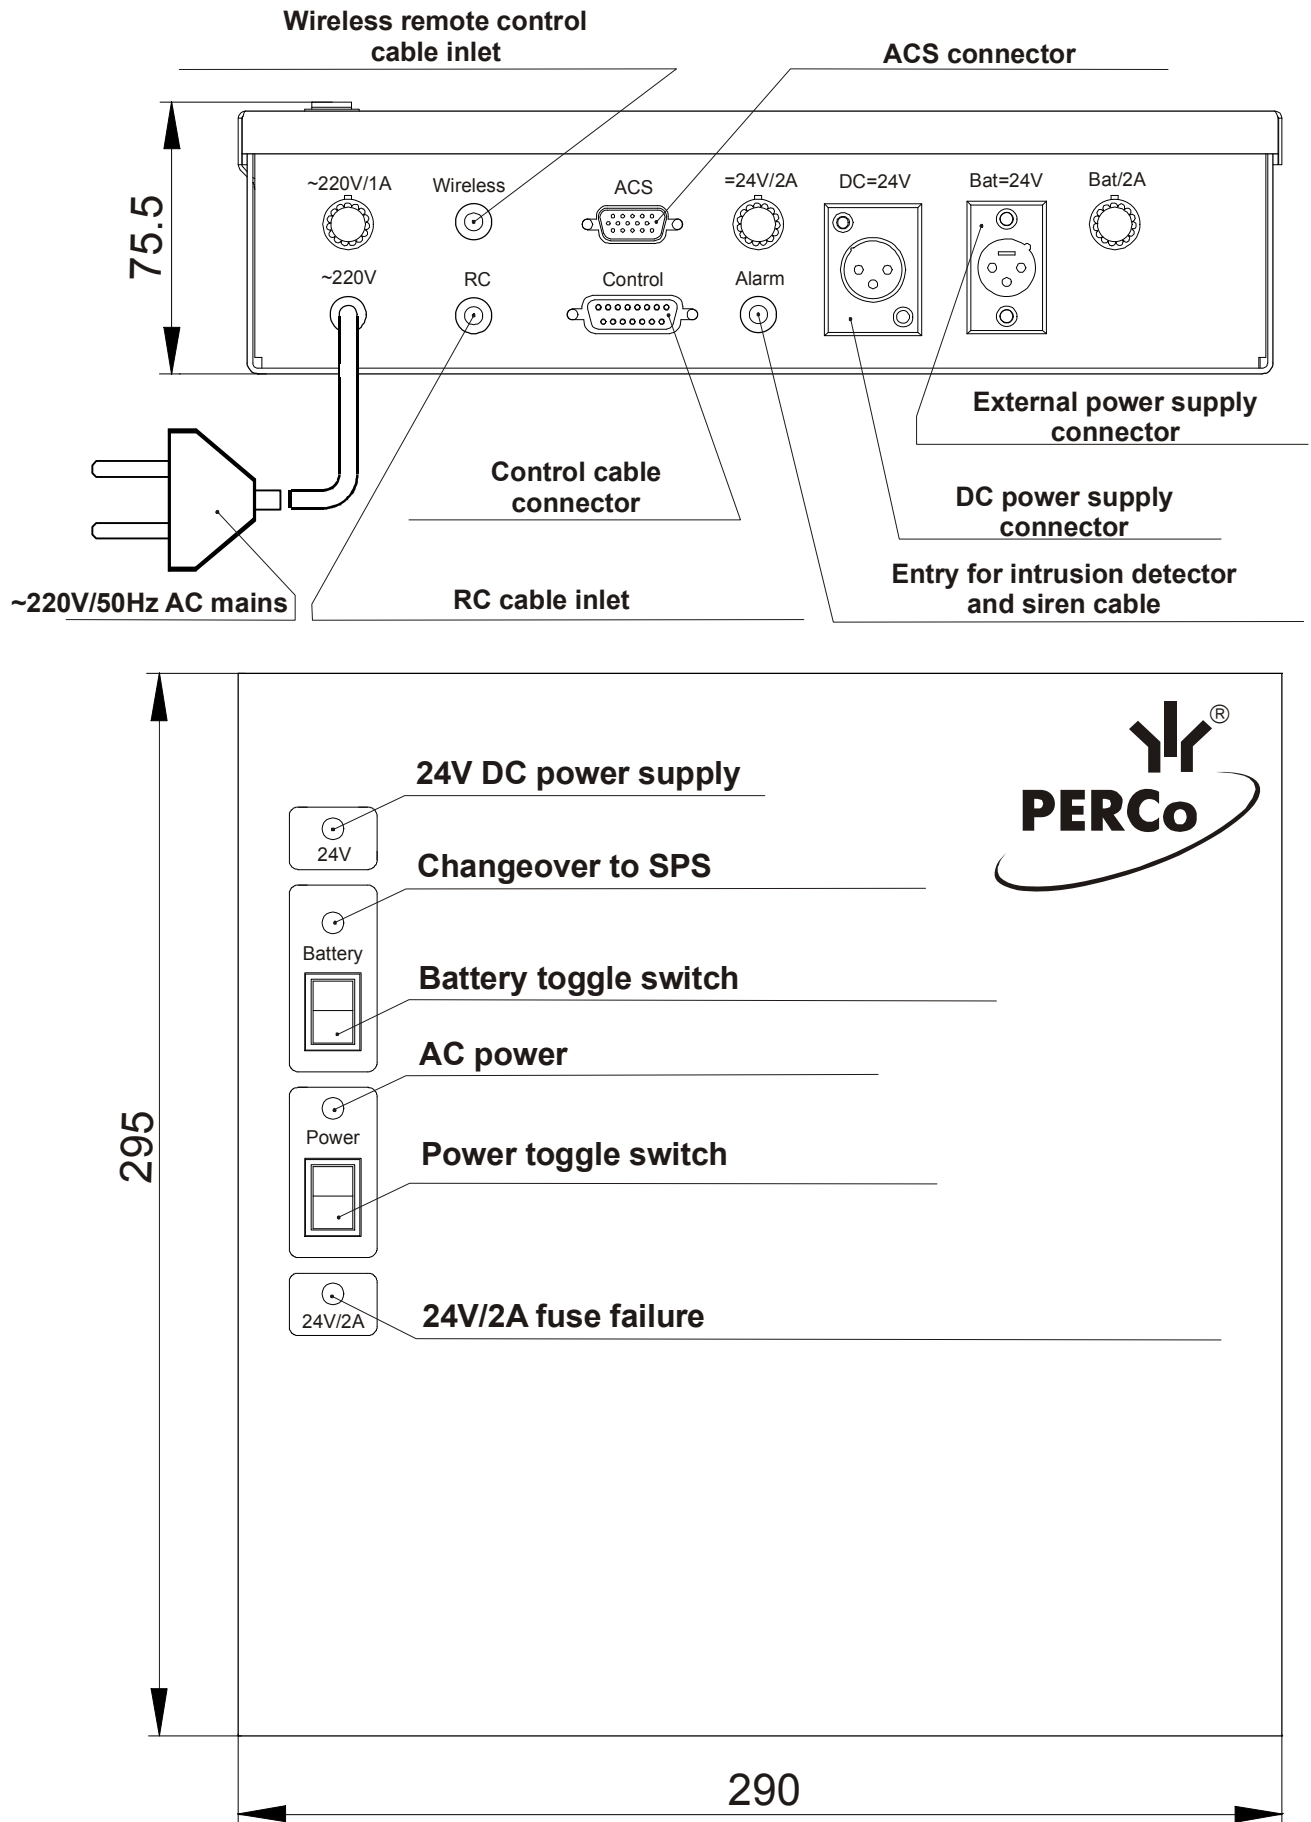

Figure 3. Control unit
The CU (see Fig. 3) comes as a stand-alone device in a metal case with pull-resistant fasteners for wall- or desk-mounting.
6.2.8. The remote control panel (9) serves for manual setting of the operating modes and indication thereof.
It comes as a compact desktop device with a shockproof plastic case and a flexible multicore cable (12) to connect to the CU (8) via the cable input in the bottom part of the control unit (see Fig. 3 and Fig. 1A, Appendix A).
The CU front panel (Fig. 3) houses the following LED indicators:
6.3.3.1. An ACS controller is cabled to the “ACS” connector of the CU (Fig. 3). The ACS connector is included in the set of spare parts of standard delivery set.